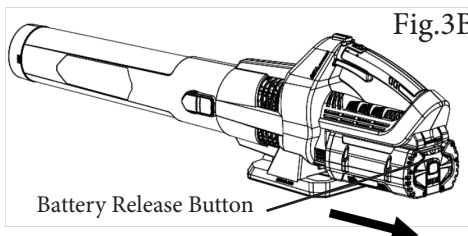

Fig.3B
- To remove the battery, push the release button on the machine and simultaneously pull the battery out of its holder. (Fig.3B)